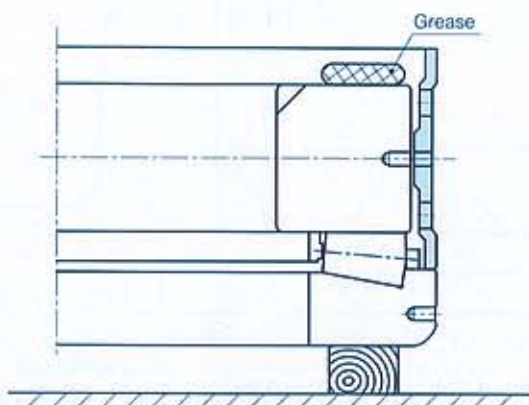

Fig. 3.41
- (4) Place the outer ring spacer, which has a thin grease coating, on the outer ring end surface (rib). (Fig. 3.41)